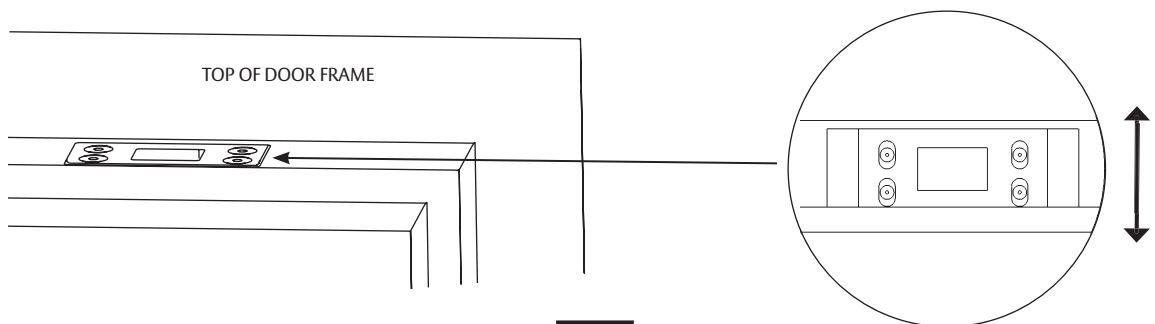

Figure 6
2. Move top strike back and forth until top latch engages strike. (Figure 6)